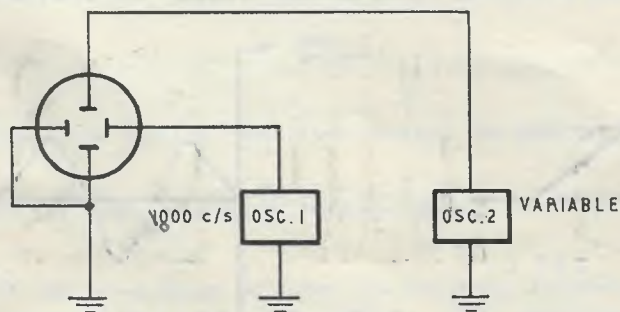

FIG. 2.
STEP 2. Connect the circuit as shown in Fig. 2.